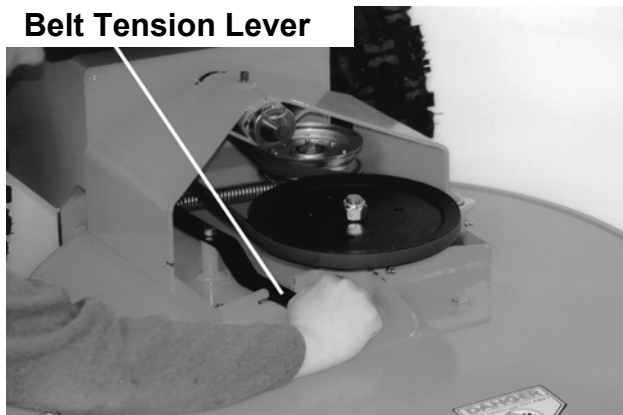

Figure 13
2. Release the belt tension lever (*Figure 13*).